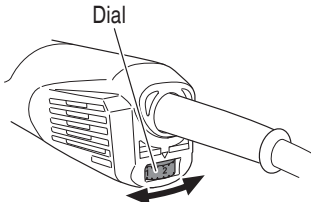

Fig. 5
9. Adjusting operating speed (Fig. 5)